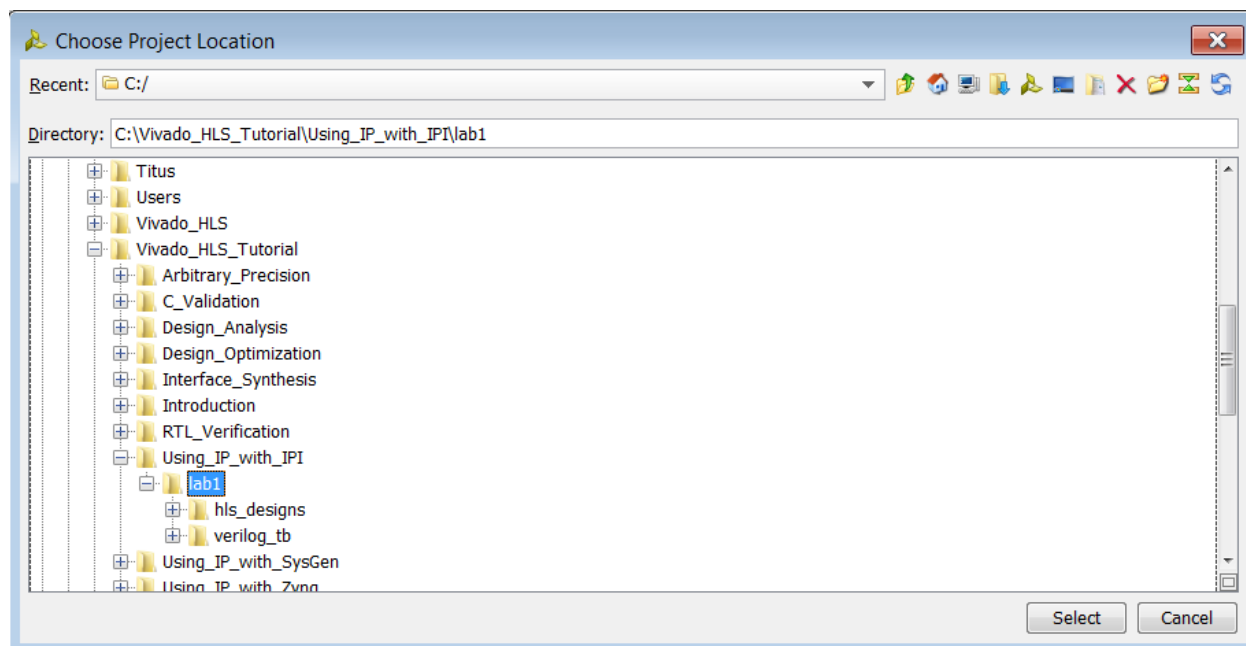

Figure 186: Path to the Vivado Design Suite Project
4. Click the **ellipsis** button to the right of the **Project location text entry box** and browse to the tutorial directory (Figure 186).